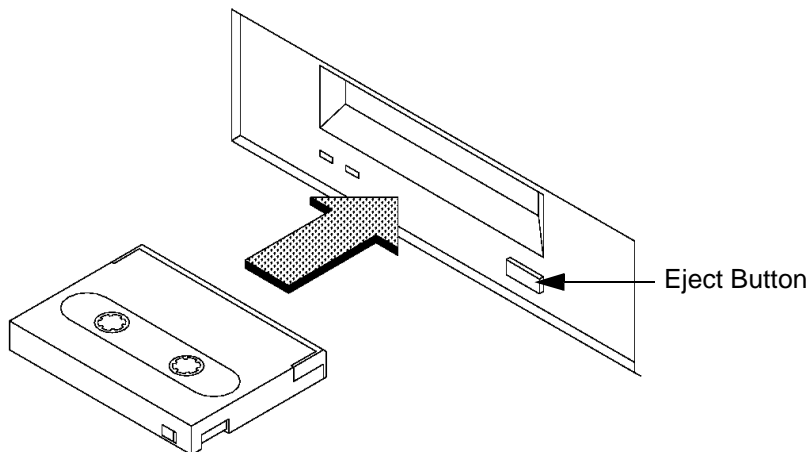

Figure 8-8
- 1 Insert the data cassette into the drive, as shown in Figure 8-8.
- 3 To remove the data cassette, press and release the eject button on the front of the drive, as shown in Figure 8-8. The LEDs on the drive flash on and off. Ten to twenty seconds later, the data cassette slides partway out of the drive. Remove the cassette from the drive.